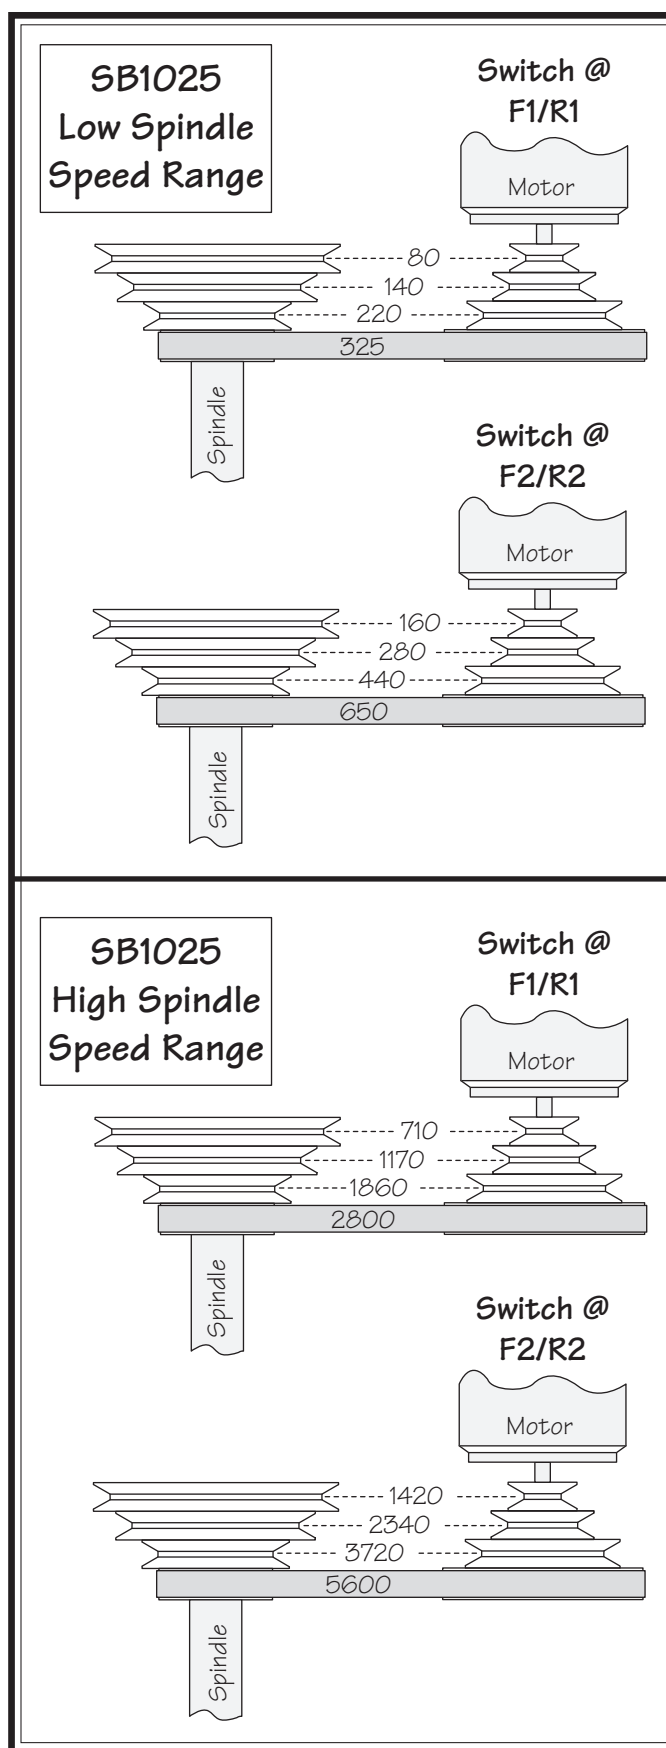

Figure 36. Model SB1025 V-belt positions and speeds.
4. Refer to the illustrations in **Figures 36–37** and position the V-belt on the pulleys for the desired spindle speed.